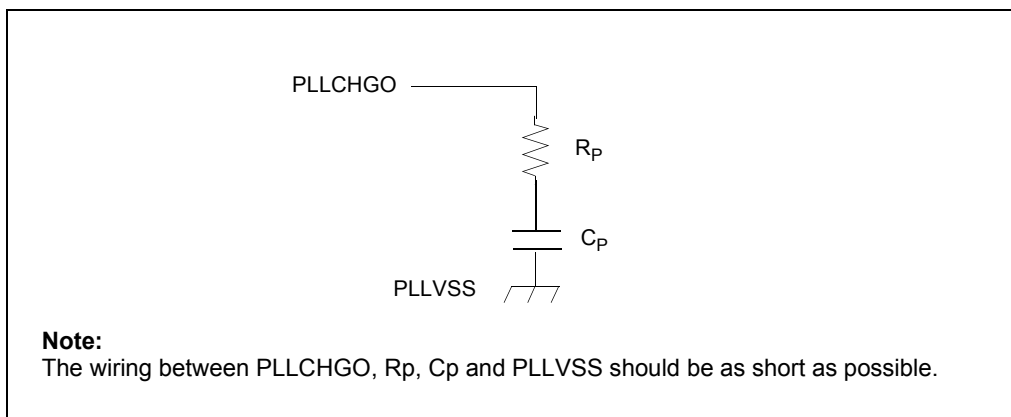

Figure 18-1: PLL External Low-Pass Filter Recommendation Parts
- chapter 18.1 PLL External Low-Pass Filter - add note to figure 18-1, *PLL External Low-Pass Filter Recommendation Parts*